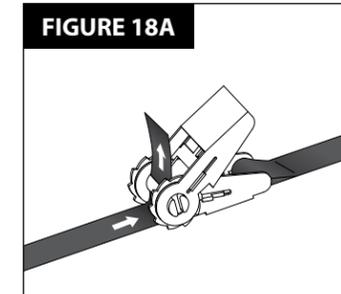

FIGURE 18A
7. a. Standing on ladder step, lean toward tree with ratchet strap now in hand, Hook "S" hook with long strap through hole provided on tree blade. Feed the long strap through the center (slot) of ratcheting mechanism and back around through tightening lever. **SEE FIGURES 18A AND 18B.**
9. Repeat previous step for second tree blade attachment by placing "S" hooks through holes provided on second tree blade. **SEE FIGURES 18A-D.**